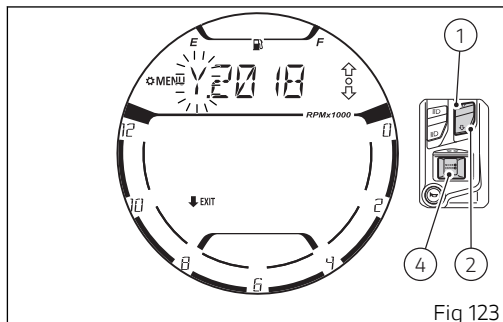

Fig 123
By pressing button (1) or button (2) the letter "Y." will start flashing (Fig 123). Now, still using button (1) or button (2), it is possible to scroll through the items year "Y.", month "M." and day "D." displayed flashing and with the currently set values.